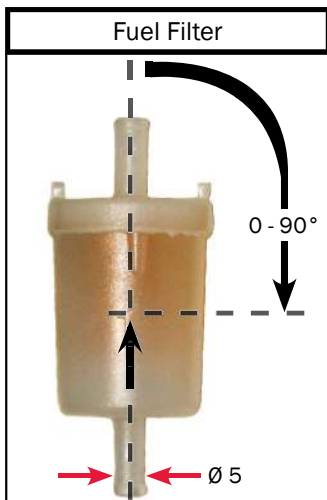

Figure 86
- The filter can be mounted vertically or horizontally; note the installation position and direction of flow (see Figure 86).